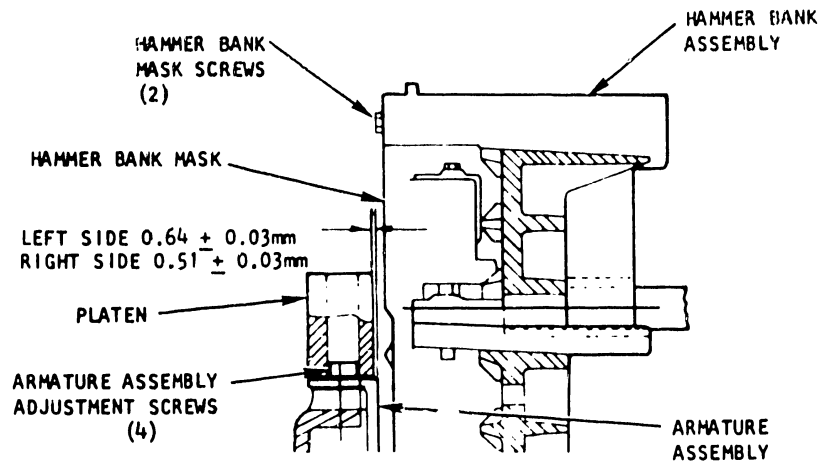

Figure 3-4. Paper Clamp Armature Assembly Adjustment
- h. On the left side, adjust the Paper Clamp Armature Assembly so that the top edge protrudes $0.64 \pm 0.03\text{mm}$ (0.025 ± 0.001 inch) from the lower edge of the plate. See figure 3-4.
- j. Using a 3mm hex key and a torque wrench, tighten the four (4) Paper Clamp Armature Assembly mounting screws to a torque of 1.8 N/m.